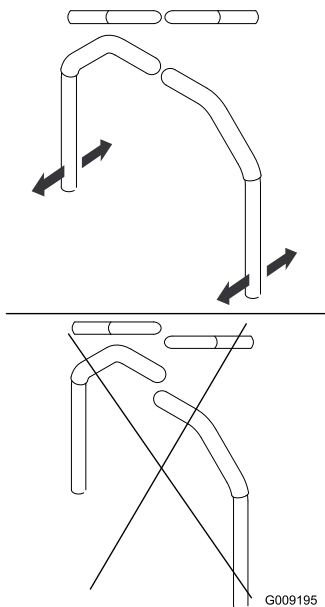

Figure 78
4. Align the levers front to rear position by bring the levers together to the neutral position and slide them until they are aligned, then tighten the bolts (Figure 78).